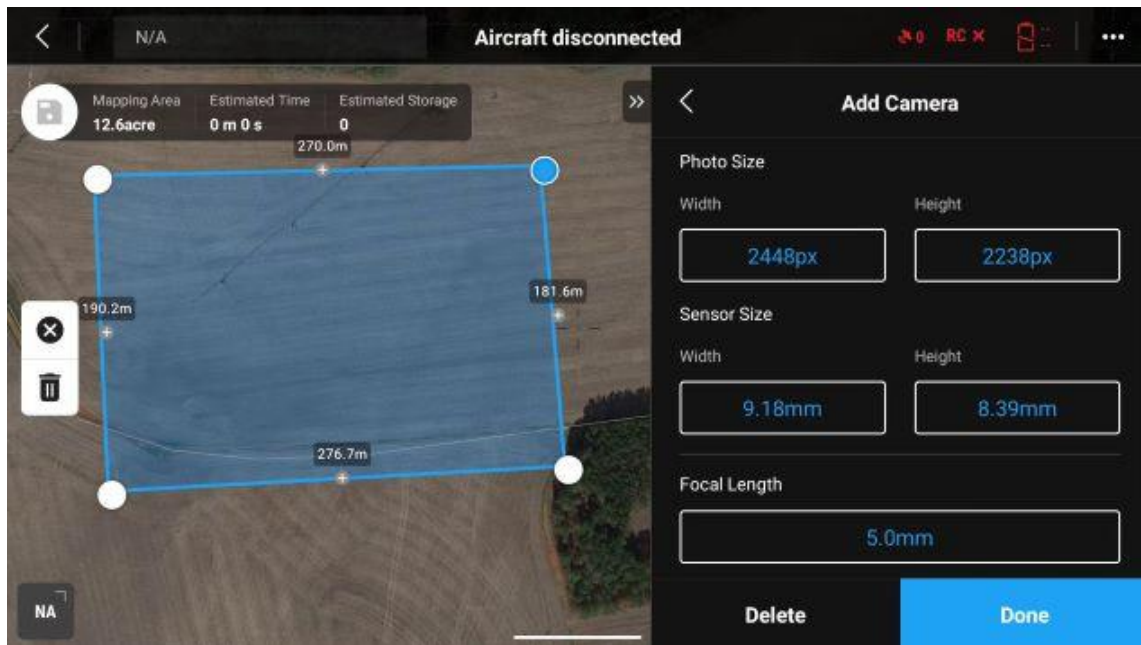

Figure 36: Adding camera values
- Now select the “Survey” option on the right, followed by the polygon option at the top of your window (Figure 36). You can load a .kml or .shp into your project or draw one. If you are drawing one, select “Basic”. A polygon will automatically appear in the map view. Drag the vertices at the corners to shape. To add new vertices, click the “+” symbols at the edges of the polygon, between the existing vertices.
12. Add the camera value shown (Figure 36) in as the camera parameters. Check the *Custom cameras with different FOVs* section to select the correct parameters.